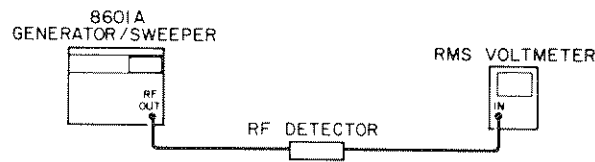

Figure 4-8. Residual AM Test Setup
- 1. Connect equipment as shown in Figure 4-8.